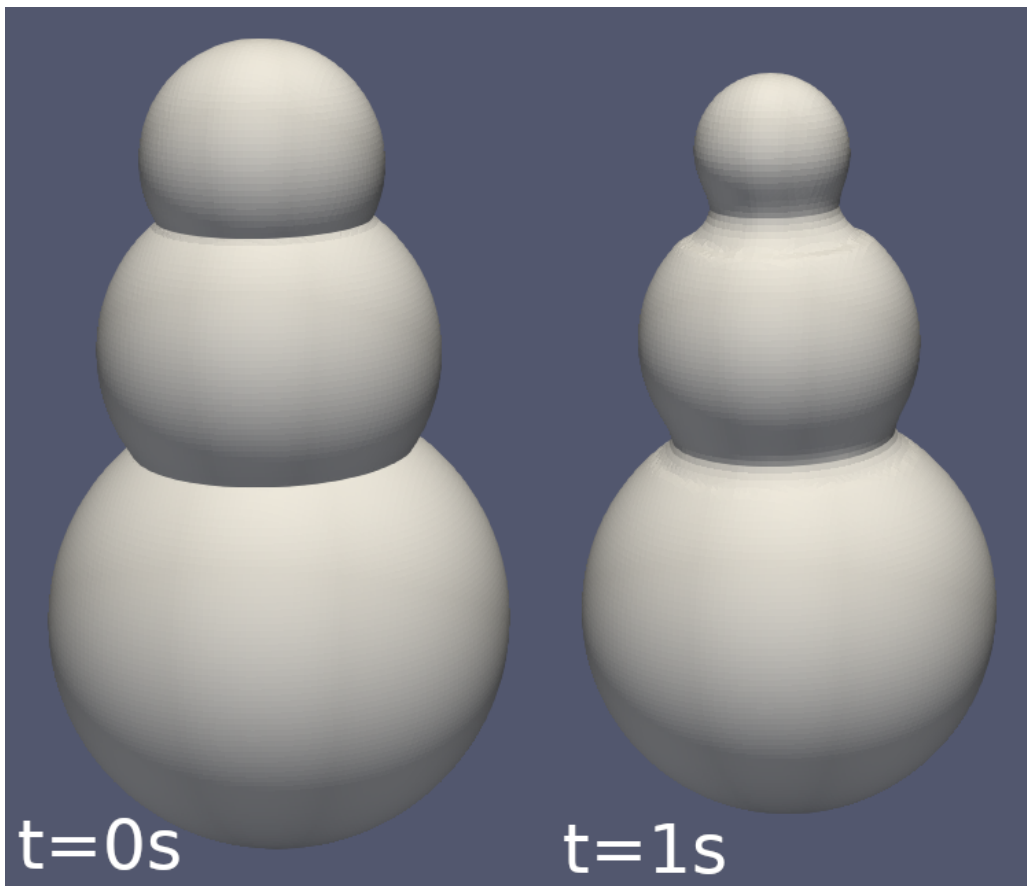

Figure 1: Evolution of the snowman level set by "melting" the snowman for 1 second.
- A single `apply` call performs one advection step adhering to the CFL condition. If the physical advection time was set by `setAdvectionTime()`, several steps will be taken until the given time in seconds has passed. In the Example, this results in the surface shown in Fig. 1.